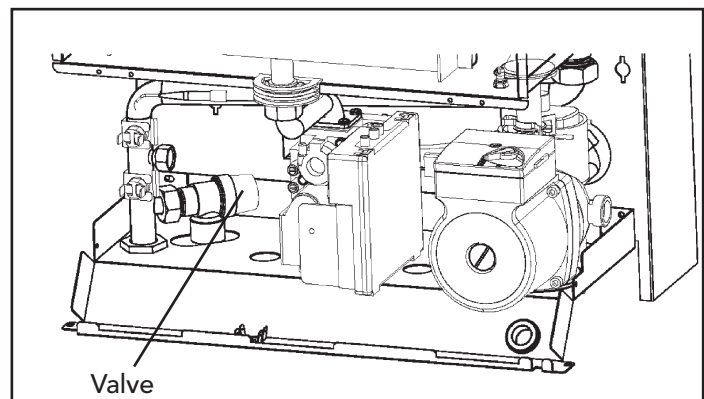

Fig. 21
## Safety Valve (fig. 21)
- Identify valve from fig. 21